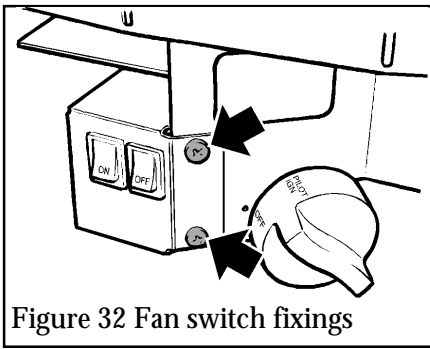

Figure 32 Fan switch fixings
13.5.6 To gain access to the pilot pipe connection, detach the fan switch bracket from the burner control bracket by removing two screws (see figure 32).
13.8.1 Detach the fan switch bracket from the burner control bracket by removing two screws (see figure 32). Carefully pull clear of the burner unit.